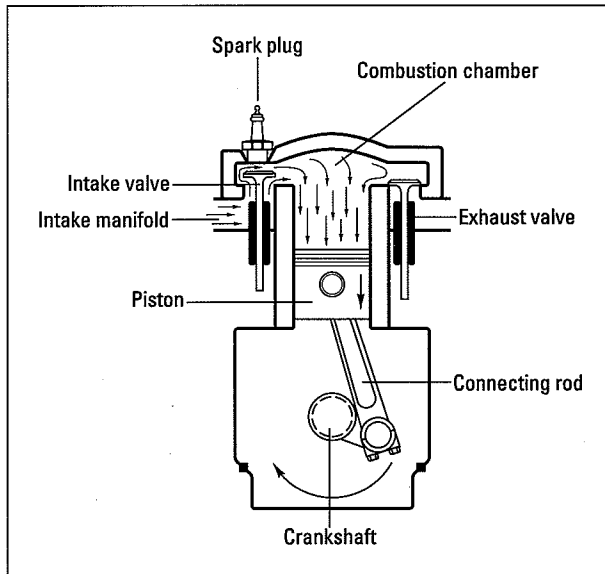
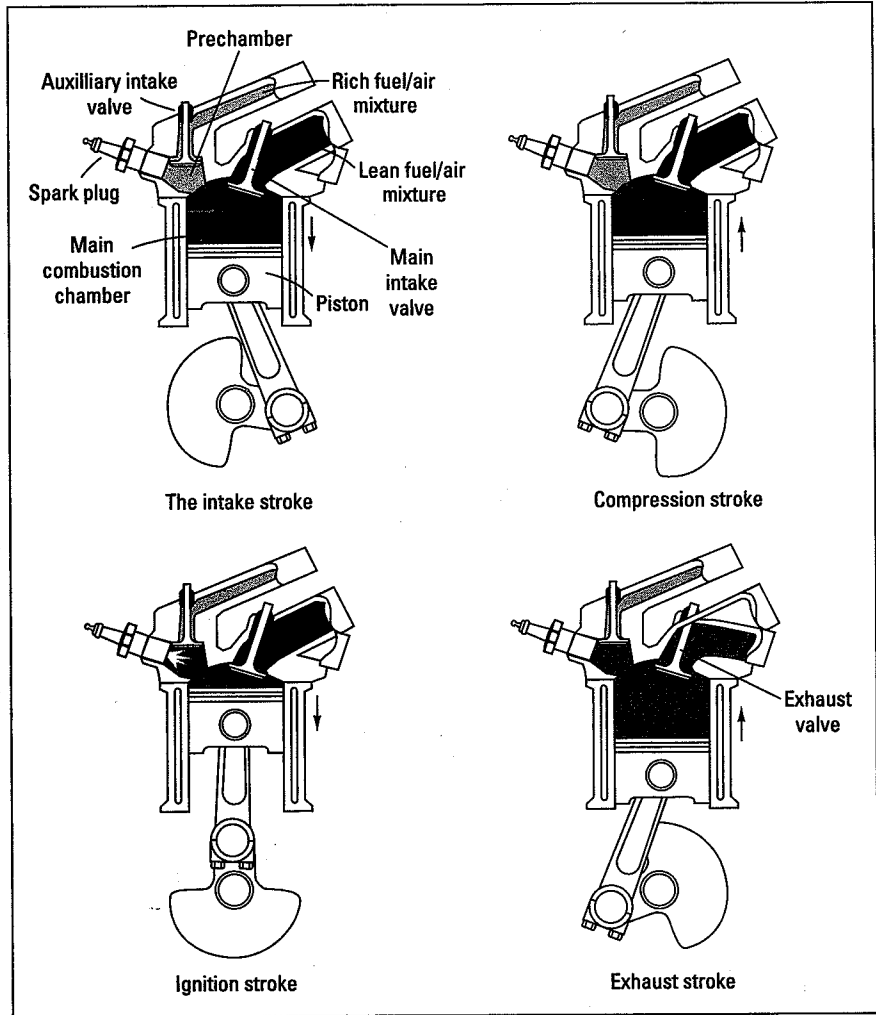

Figure 6-14:
Figure 6-18:
- 1. Intake stroke:** (See Figure 6-14.) When the piston moves *down*, it creates a vacuum in the top portion of the cylinder (where the piston was at the end of its last upstroke). Air can't get in from the bottom of the cylinder because the rings on the piston seal it off. Then the intake valves, conveniently located at the entrance of the intake manifold to the cylinder, open up and let the fuel/air mixture into the cylinder. This mixture rushes in to fill the vacuum left by the piston.
- 1. Intake stroke:** The cylinder head has a little chamber, called a *pre-chamber*, which has its own little intake valve. The spark plug is also located in this chamber. On the intake stroke, the little auxiliary intake valve opens and allows a very rich mixture of fuel and air to enter the pre-chamber. On the same stroke, the main intake valve opens up and brings a very lean mixture of fuel and air into the cylinder itself. Figure 6-18 shows a cylinder in a stratified charge engine during the intake stroke. Compare it to the conventional cylinder in Figure 6-14.